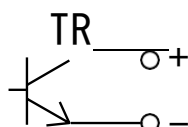

Figure 1
*1 Equivalent circuit is as the figure shown right. Maximum capacity of TR is 80V, 100mA. When connecting such as relay to two terminals, do not exceed 80% of the maximum capacity of TR. (Figure 1)